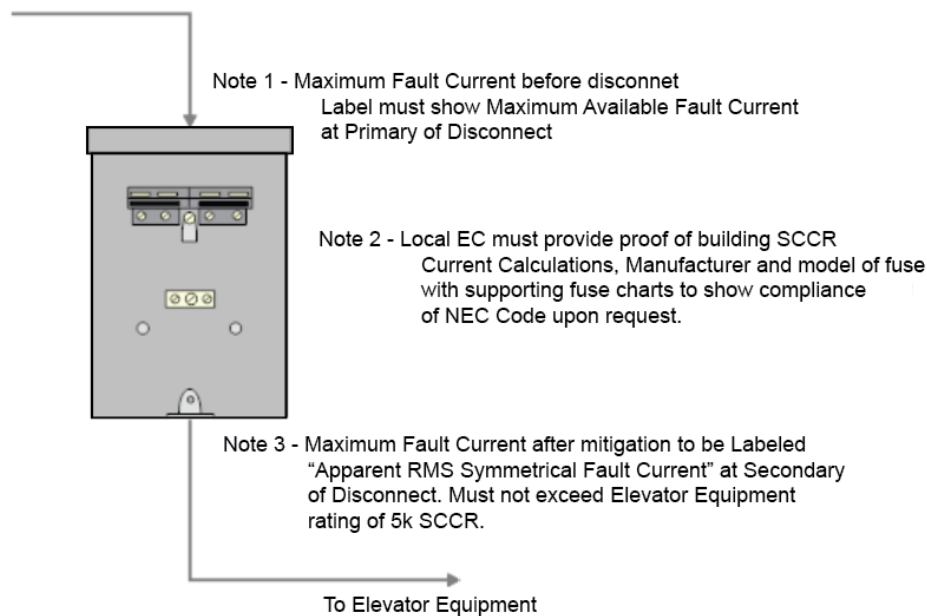

Figure 1- SCCR Labelling Diagram
(Please see figure 2-Sample Label Example) that identifies the Max Available Fault Current onto Disconnect: ** See note 1 of Figure 1-SCCR Diagram. In addition, we require a hard copy of the manufacturers Fuse Chart and rating verifying the SCCR meets requirements.
Per NFPA 70, the service switch should be legibly marked with Apparent RMS Symmetrical fault current supplying the Elevator Equipment. ** See note 3 of Figure 1-SCCR Diagram.
** See note 2 of Figure 1-SCCR Diagram.